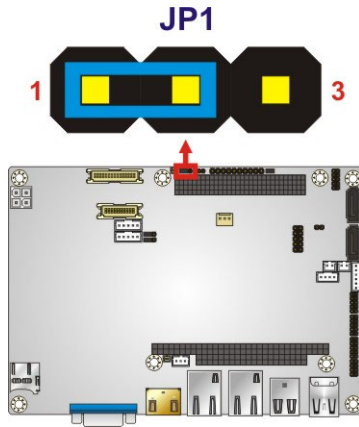

Figure 4-3: Clear CMOS Jumper Location
- Jumper Location:** See **Figure 4-3**